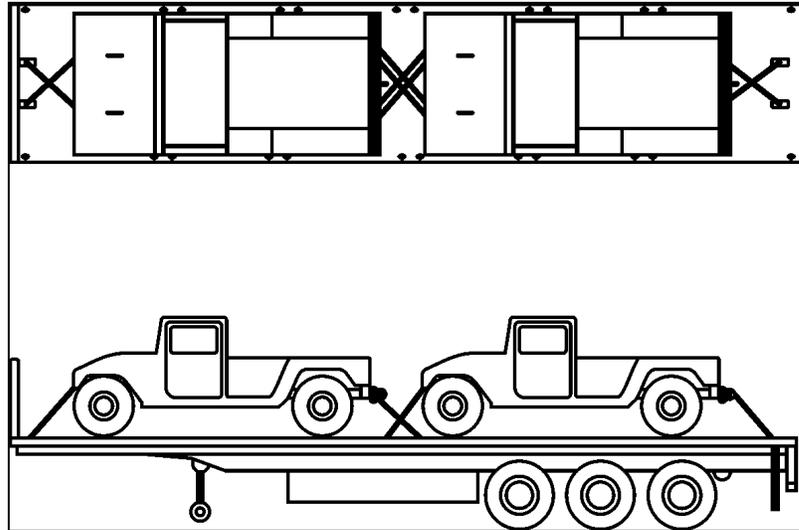

Figure 3-58. Vehicle Payload on M872 Semitrailer
- 6. Secure payload vehicle to semitrailer using load binders and chains (general procedures applicable to M872 semitrailers, see Figure 3-58).